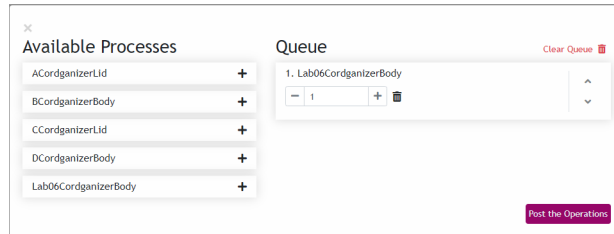

Figure 7: BUMES FMC Overview, Post Operations Menu
11. In the popup window, shown in Figure 7, click the plus sign and enter a quantity of 1 unit for the process **Lab06CordganizerBody**. Click **Post the Operations**.